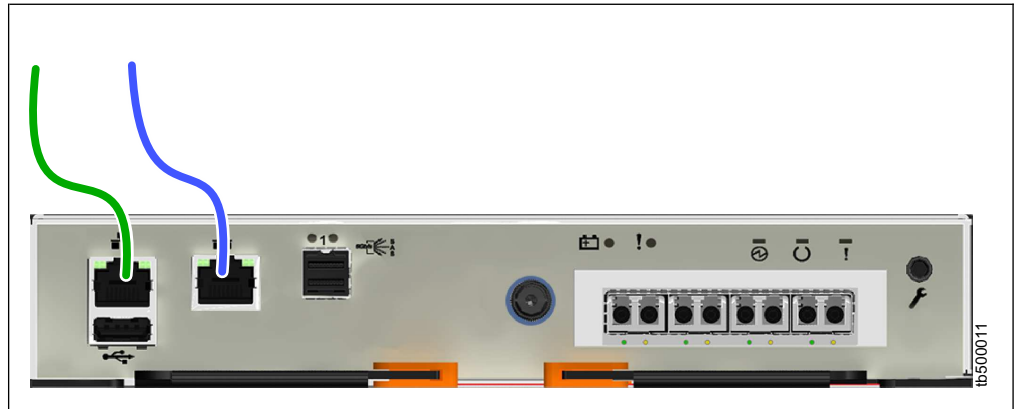
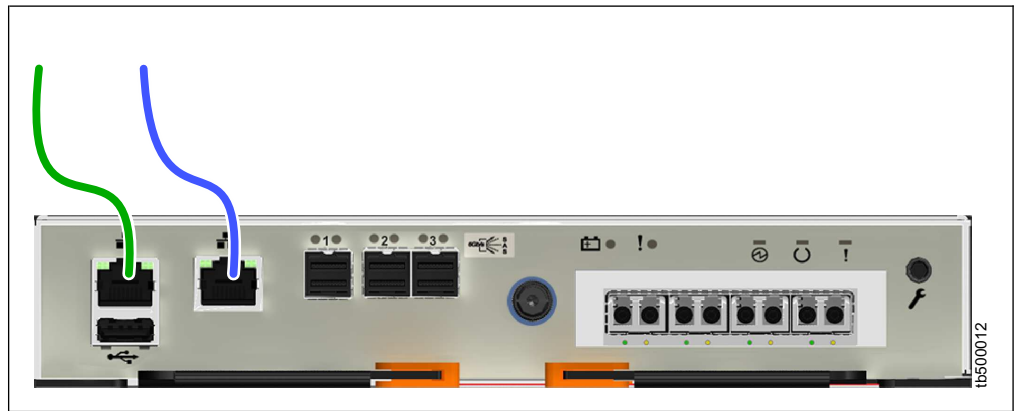

Figure 22. Connecting the Ethernet cables to a Storwize V5010 system
Figure 23. Connecting the Ethernet cables to a Storwize V5020 system
- a. Identify the location and function of the Ethernet ports on your system; refer to Figure 22 on page 31 and Figure 23 on page 31.
Figure 22 on page 31 shows the Ethernet cabling and the ports on the back of a Storwize V5010 system.
Figure 23 shows the Ethernet cabling and the ports on the back of a Storwize V5020 system.
- c. Optionally, connect Ethernet port 2 of each node canister in the system to a second IP network, as shown by the blue cable connection in Figure 22 and Figure 23. This second port can be used to provide a redundant connection to the system management interfaces; it can also be used for iSCSI connectivity to the system by hosts on the network.